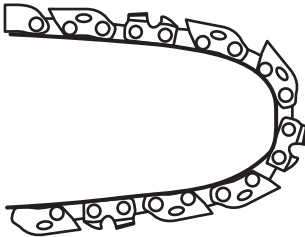

Fig. 12a
3. Check the chain tension using one hand to lift the saw chain (D6) against the weight of the product. The correct chain tension is achieved when the saw chain can be lifted by approx. 2-4mm from the guide bar (D7) in the centre. (See Fig. 12a, 12b)